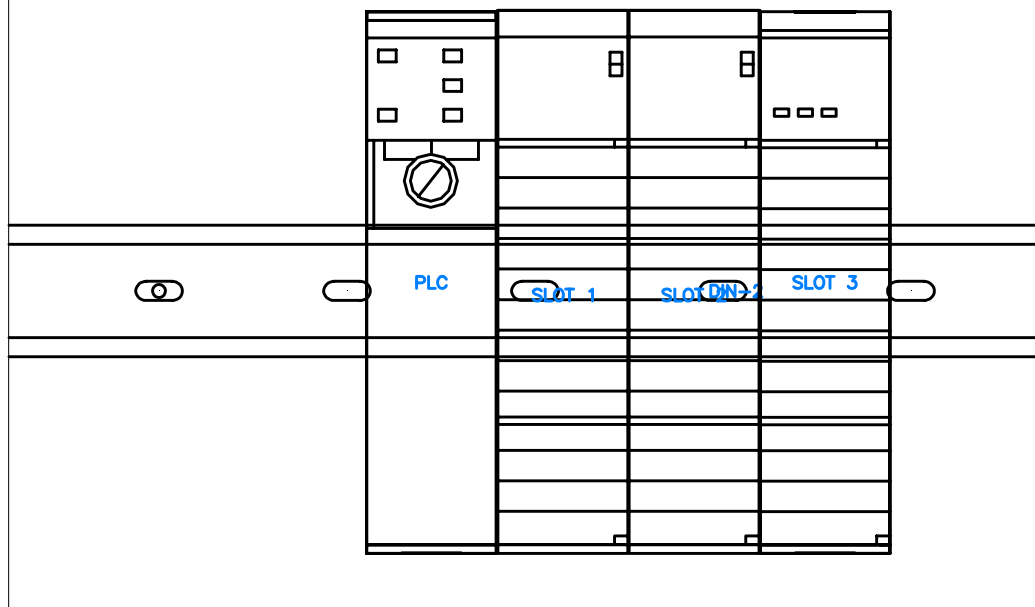

Figure P2-11 The SLOT 3 inserted in the drawing
37. Choose the **OK** button; the SLOT 3 is inserted in the drawing, as shown in Figure P2-11.